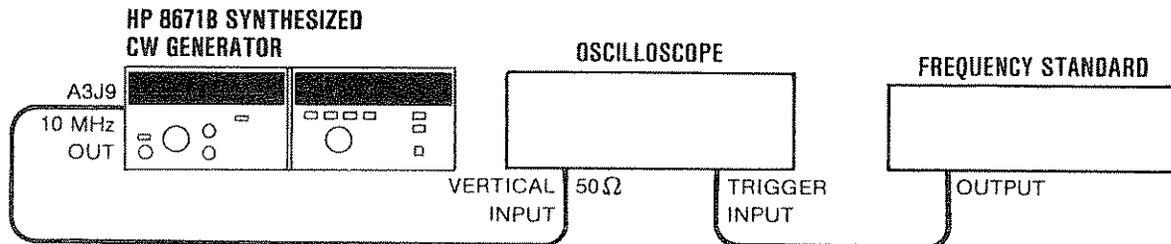

Figure 5-1. 10 MHz Reference Oscillator Adjustment Test Setup
2. Connect the equipment as shown in Figure 5-1. Set the vertical input of the oscilloscope for 50Ω input impedance.